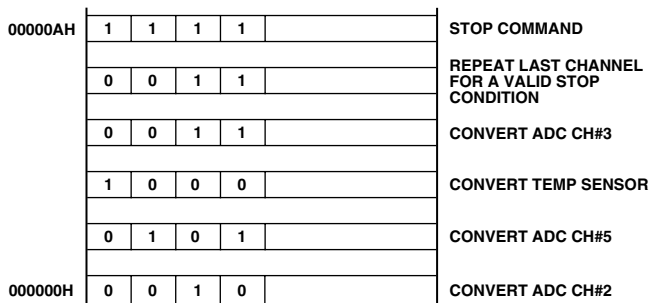

Figure 11. Typical DMA External Memory Preconfiguration
3. The external memory must be preconfigured. This consists of writing the required ADC channel IDs into the top four bits of every second memory location in the external SRAM starting at the first address specified by the DMA address pointer. As the ADC DMA mode operates independently of the ADuC812 core, it is necessary to provide it with a stop command. This is done by duplicating the last channel ID to be converted followed by “1111” into the next channel selection field. Figure 11 shows a typical preconfiguration of external memory.